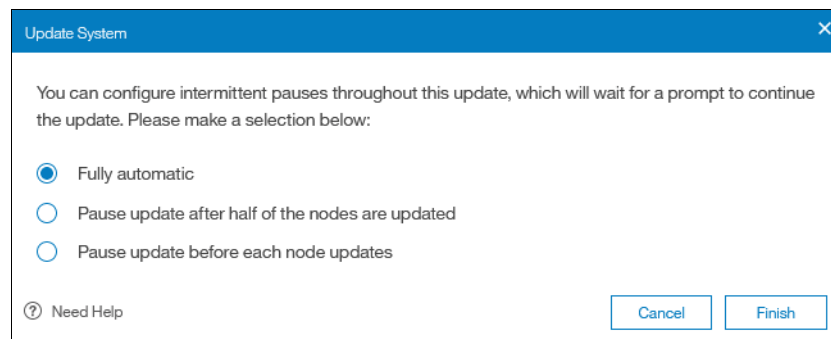

Figure 7-51 Update System options
7. An additional window is displayed at this point allowing you to choose a fully automated update, one that pauses when half the nodes have completed update, or one that pauses after each node update, as shown in Figure 7-51. The pause options will require the **Resume** button to be clicked to continue the update after each pause. Click **Finish**.